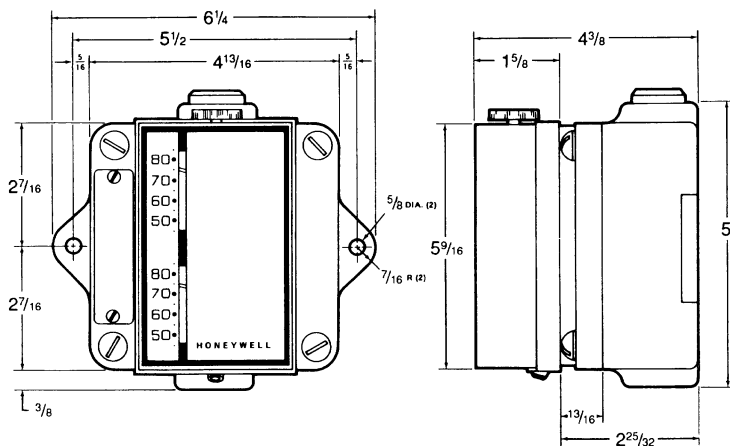

Figure 1 - Mounting Dimensions
2. After selecting a location, mount the explosion proof housing on the wall. See Figs. 1 and 2.